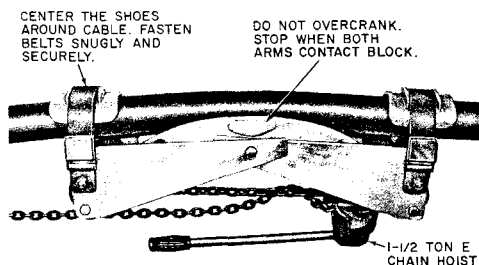
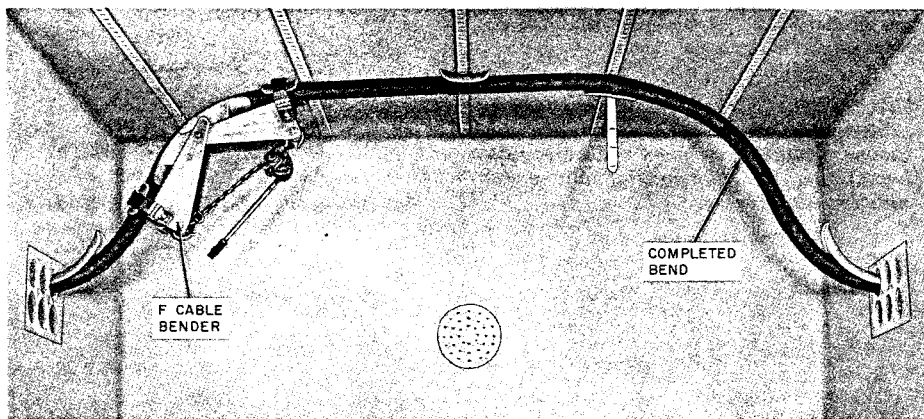

Fig. 11—F Cable Bender Positioned on Cable
Fig. 12—Final Racking Shape Obtained With F Cable Bender
(9) Complete the cable bending using the F cable bender. Position the cable bender on the cable (Fig. 11), engage the chain hoist on the tool, and take up on the hoist. Complete bends at both ends of the manhole to obtain final racking shape shown in Fig. 12. Remove the bender and support the cable with cable hooks of the required size.